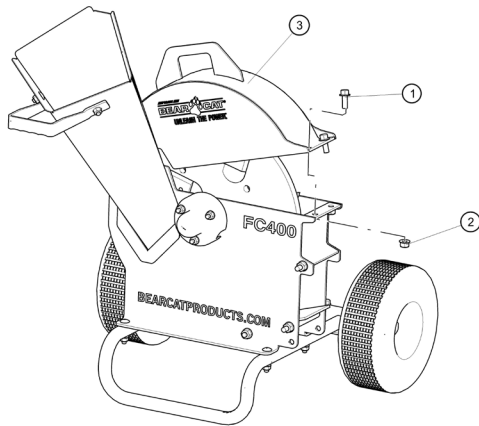

Figure 5.2, Open Rotor Housing
1. Remove two bolts (1) and nuts (2) and open the rotor housing (3). See Figure 5.2.